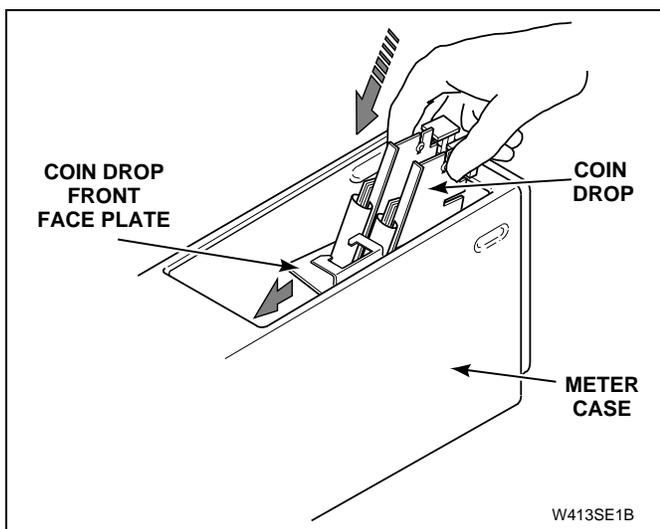

Figure 19
- (1.) Gently work new coin drop into meter case with the drop's front face plate down. See *Figure 19*.